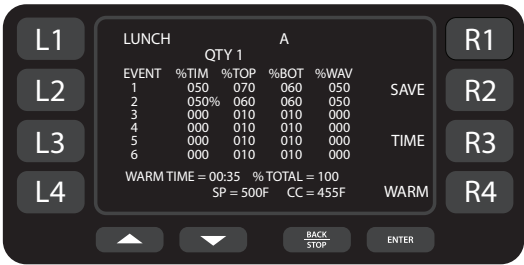

Figure 27: Recipe Edit Screen
6. From the “Recipe Edit” screen (Figure 27), edit the food group name: